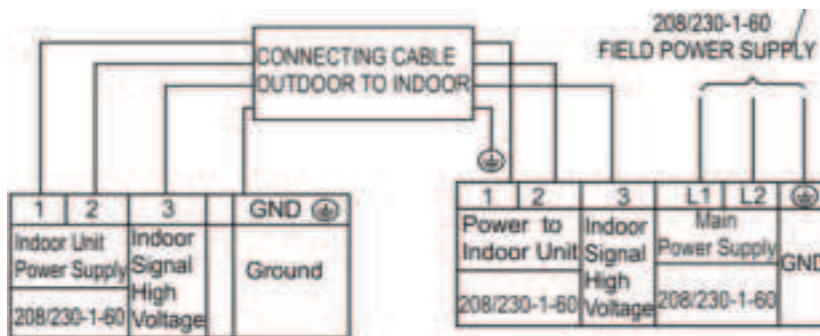
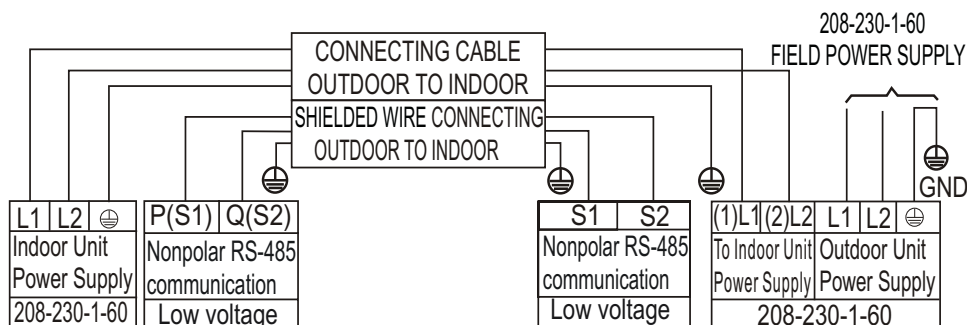

Fig. 43 — Connection Diagrams (sizes 09K to 24K)
Fig. 44 — Connection Diagrams (sizes 36K and 58K)
2. Connect the wiring from the outdoor unit per the connection diagram (see Fig. 43 — on page 16 and see Fig. 44 — on page 16).